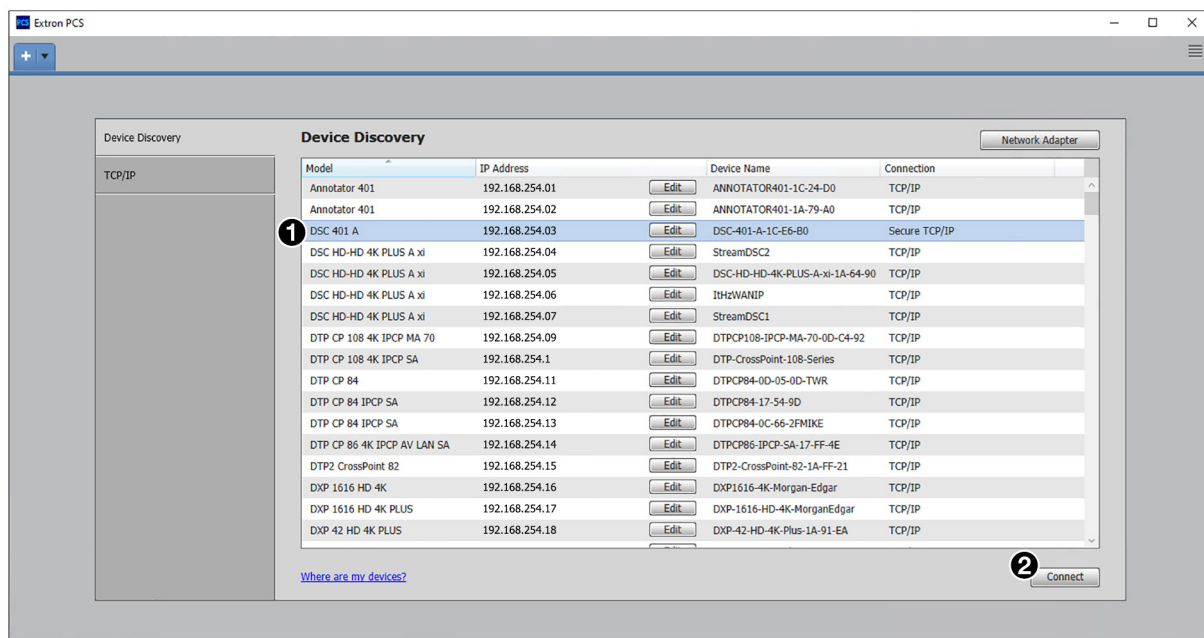

Figure 17. Device Discovery Panel on PCS Connection Screen
- In the Device Discovery panel of the PCS window, click on the name of your UCS 303 (see figure 17, ①). (You may need to scroll to locate it, depending on the number of devices listed.) The **Connect** button (②) becomes available.